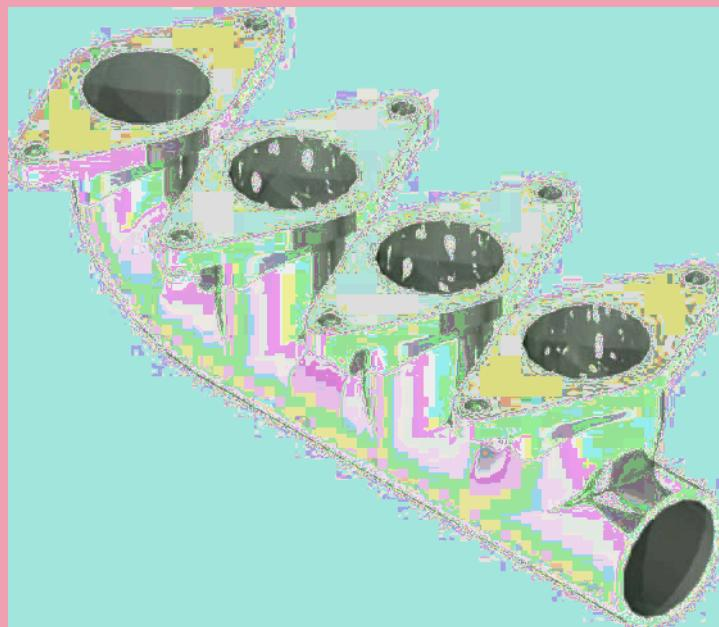
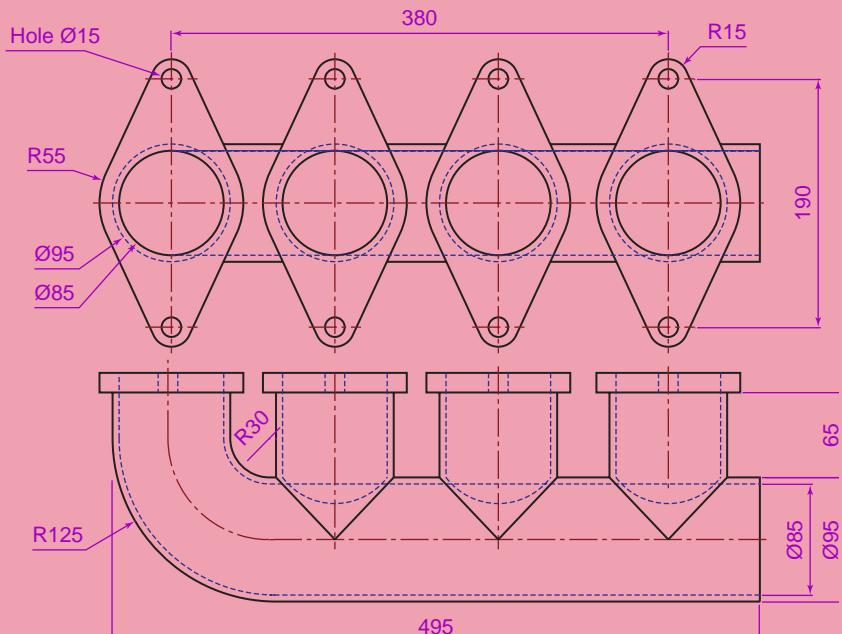

Fig. 19.20 Exercise 3 – ViewCube/Isometric view
Fig. 19.21 Exercise 3
3. Construct a 3D model drawing to the details given in Fig. 19.21. Add suitable lighting and apply a material, then render as shown in Fig. 19.20.